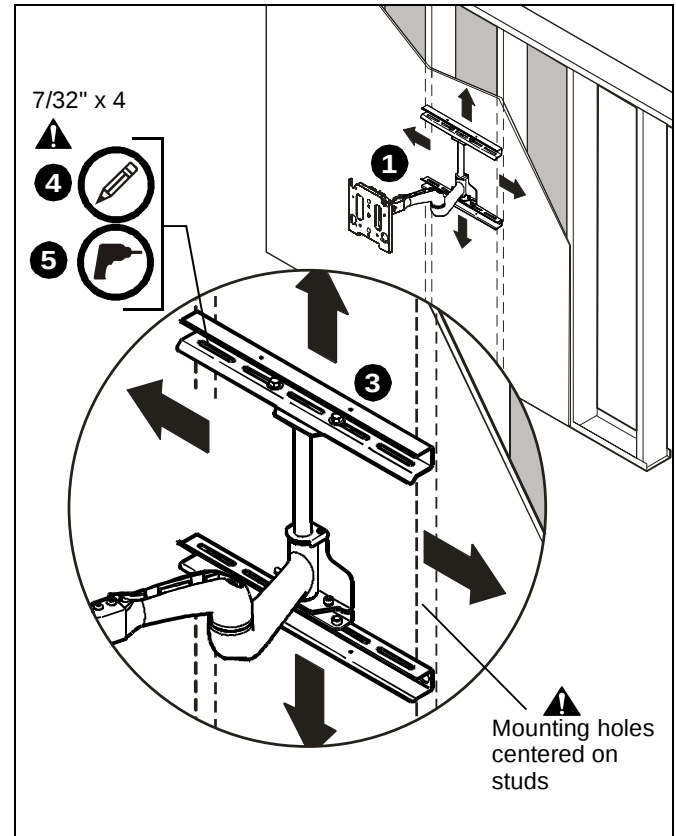
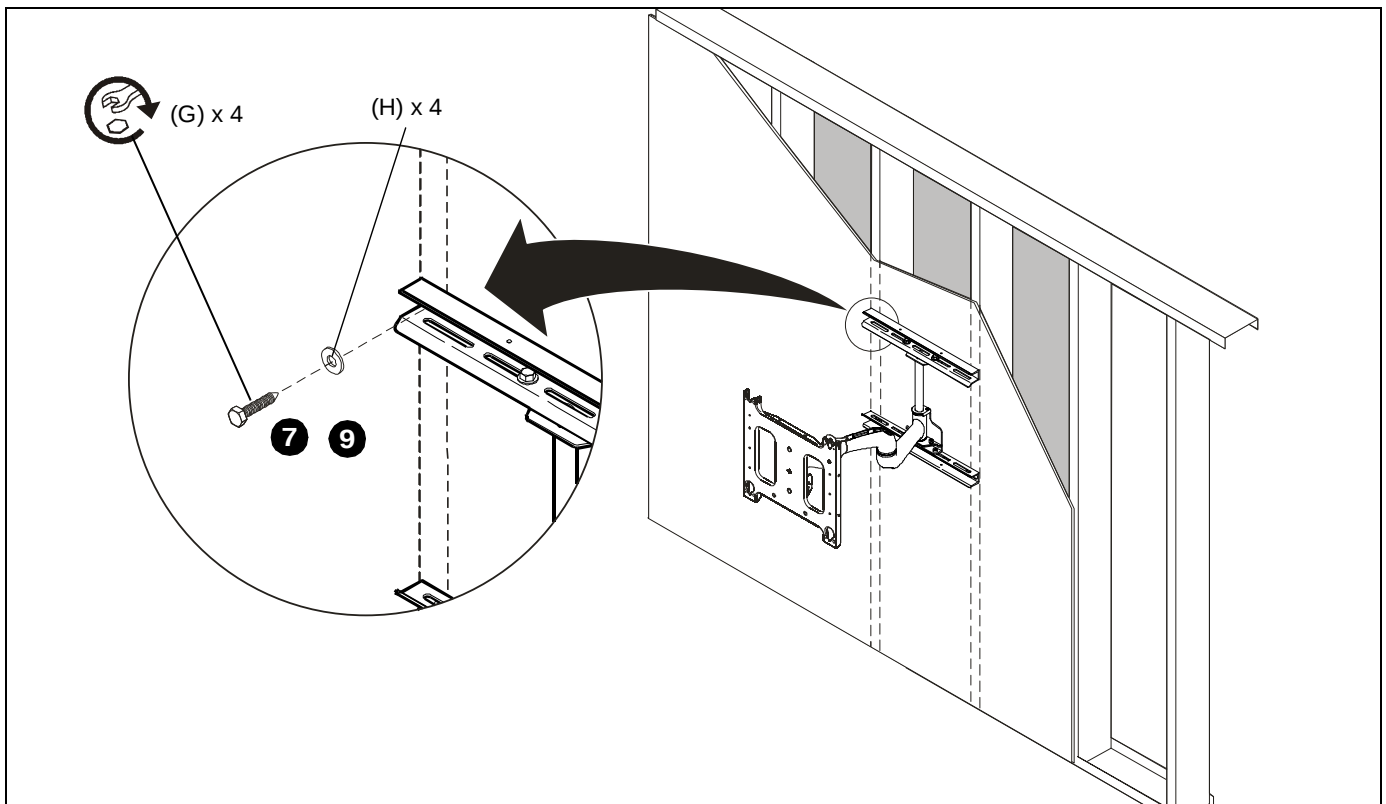

Figure 2
Figure 3
2. Using a stud sensor locate two wood studs 16" apart on center. (See Figure 2)
3. Using two people, place mount against wall and level mount aligning mounting holes in upper and lower wall channels with studs. (See Figure 2)
4. Use a pencil mark four mounting holes making sure mounting holes are located as close as possible to center of studs. (See Figure 2)
5. Drill four pilot holes where the mounting holes were marked using a 7/32" (6mm) drill bit. (See Figure 2)
6. Install two 5/16" x 2-1/2" lag bolts (G) and two 0.135" thick washers (H), through mounting holes in upper wall channel and into pilot holes. DO NOT tighten at this time.
9. Install two 5/16" x 2-1/2" lag bolts (G) and two 0.135" thick washers (H), through mounting holes in lower wall channel and into pilot holes. (See Figure 3)